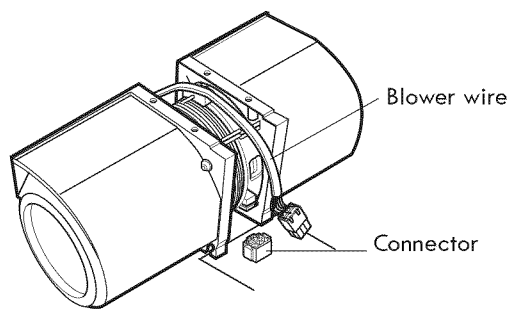

Figure 13
2. Carefully lift the blower unit out of the microwave oven. Disconnect the blower wire from connector. See Figure 13.